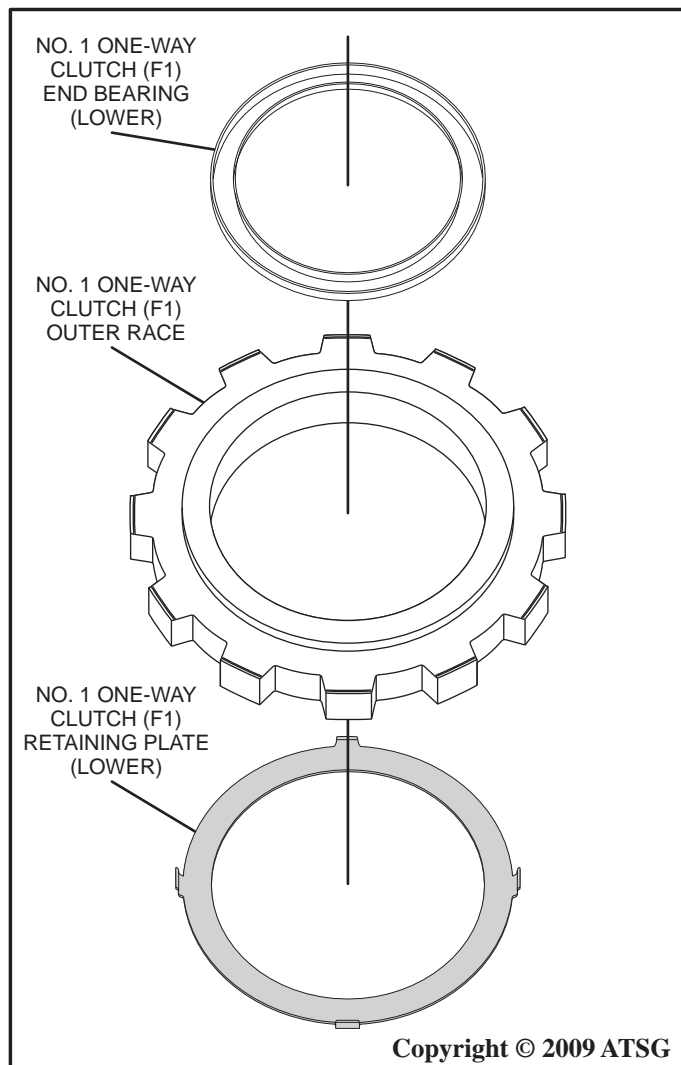

Figure 117
4. Install the retaining plate (lower) to the No. 1 one-way clutch (F1) outer race and snap into place as shown in Figure 117.
5. Install the end bearing (lower) into the No. 1 one-way clutch (F1) outer race as shown in Figure 117.